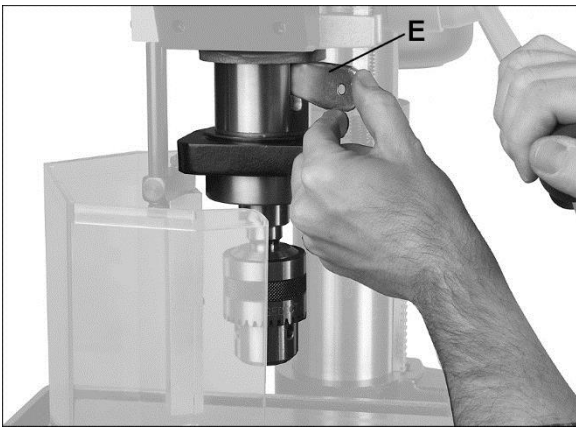

Figure 6-3: drift key insertion
1. Unplug machine from power source. Raise table until it is about seven inches below chuck. Place a piece of scrap wood on table, and lower quill (Figure 6-3) using feed handles. Rotate spindle to align keyhole in spindle with keyhole in quill. Insert drift key (E, Figure 6-3) into aligned slots and tap lightly. The chuck and arbor assembly should fall from the spindle.